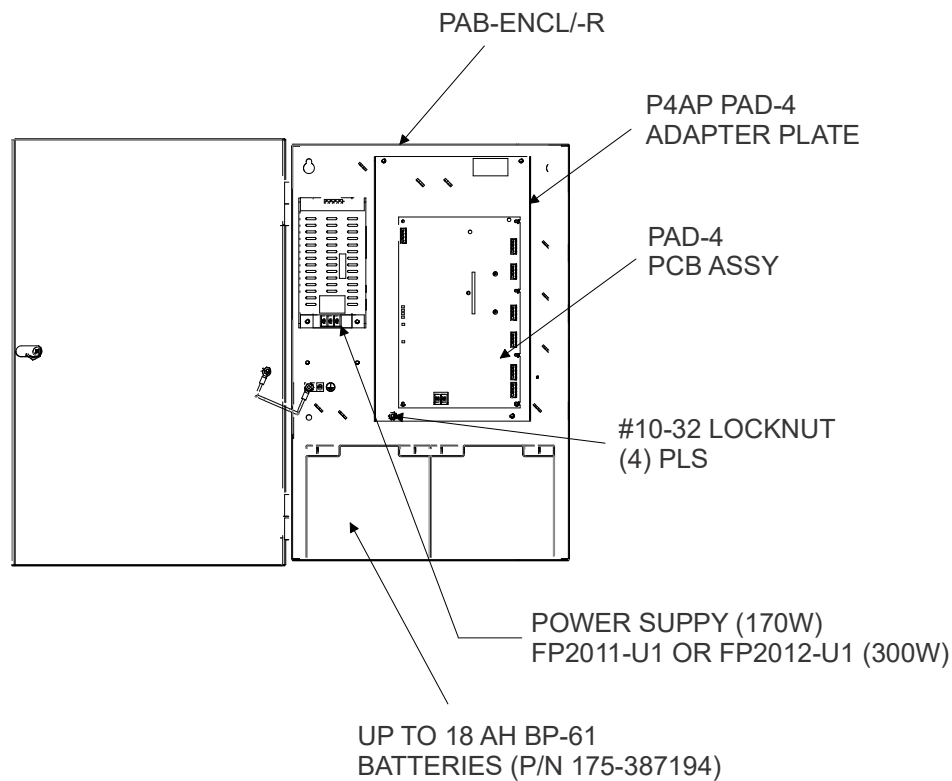

Figure 1: Mounting the Adapter Plate in a PAB Enclosure (Black & Red)
2. Mount the adapter plate assembly inside the enclosure using the four (4) locknuts provided, as shown in Figures 1 and 2.